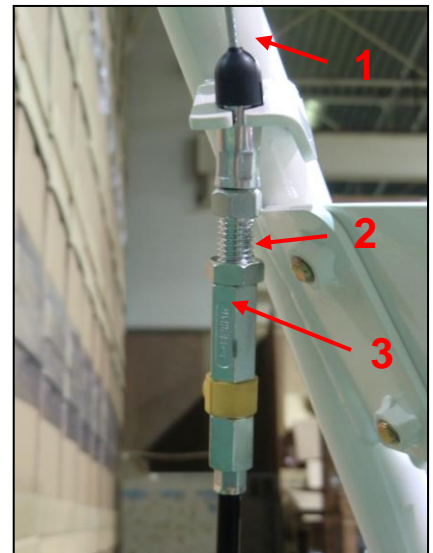

Figure 13
- If the blade does not stop when the blade lever is released, adjust the tension wire(1, figure 13) as follow : unscrew the locking nut 2 and after screw up the adjust nut 3 against the lock nut. Try the machine again. Perform the adjustment again if needed.